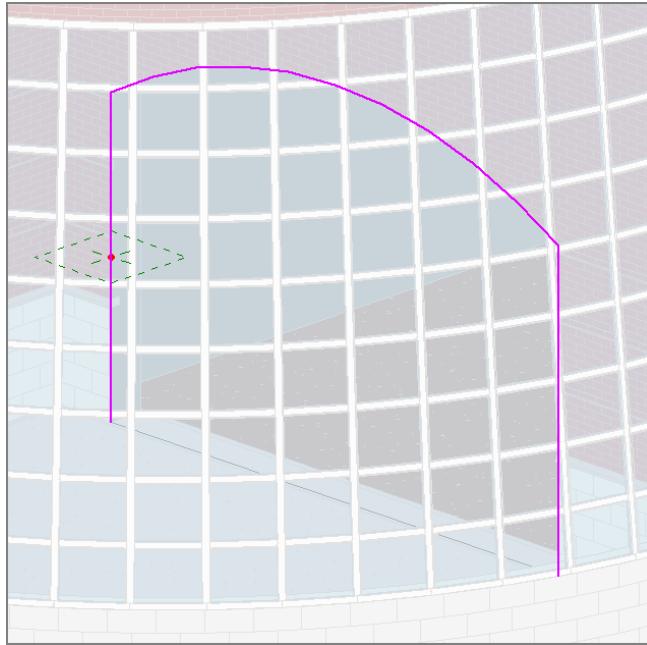

FIGURE 17.30: Picking the exterior edge for the sweep's path
14. Pick the exterior corners of the opening forming the arc and the two straight lines to either side of the opening (see Figure 17.30).